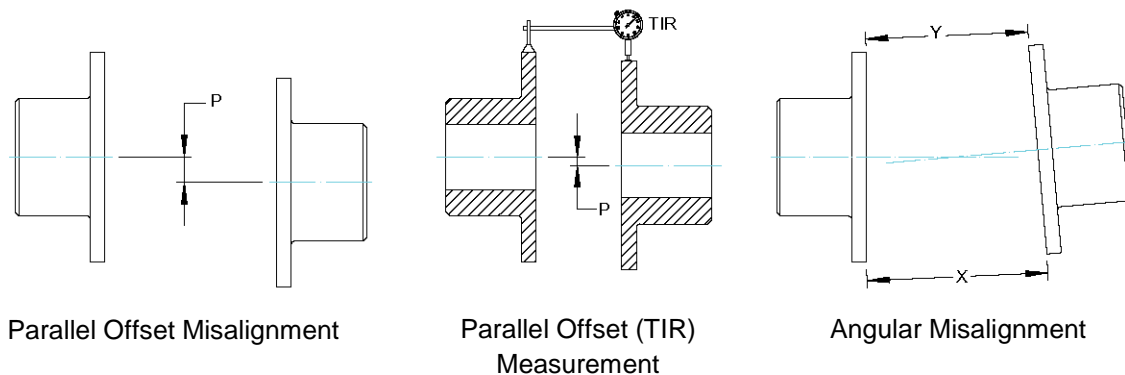

Figure 5. Coupling Alignment
2. The “Parallel Misalignment” value (P) is the offset between the centers of the hubs, as shown in Figure 5.
3. When the Parallel Offset is measured by rotating the hubs in unison with dial indicators as shown in Figure 5, the Total Indicator Reading (TIR) should be divided by (2) to calculate (P).
5. The “Angular Misalignment” value is the maximum difference between the measurements X and Y taken at opposite ends of the hub flanges, as shown in Figure 5.